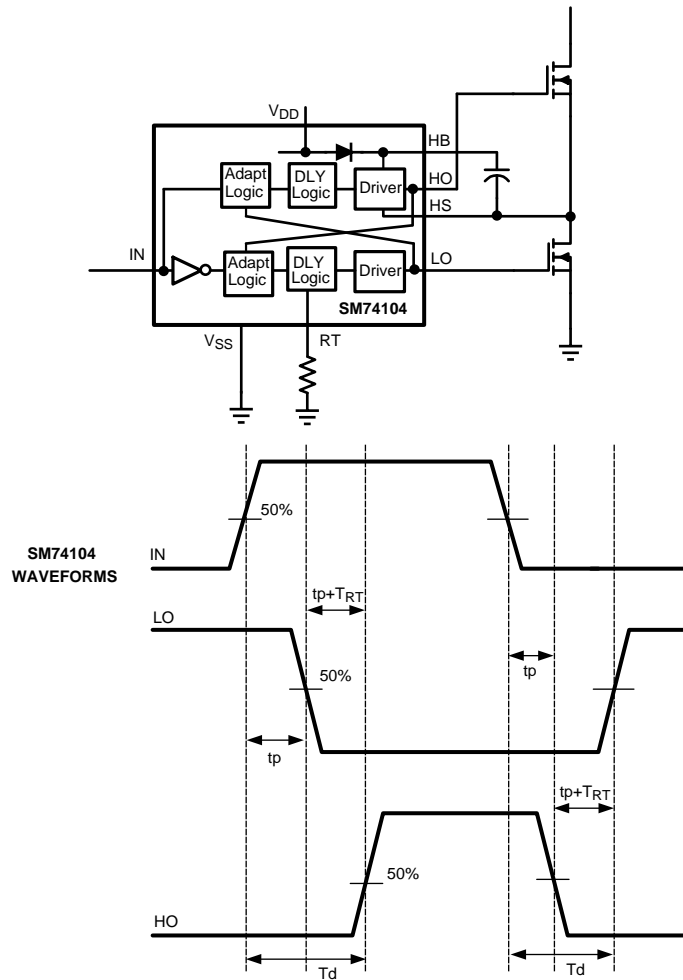

Figure 16. Application Timing Waveforms
Referring to the timing diagram in Figure 16, the rising edge of the PWM input (IN) turns off the bottom MOSFET (LO) after a short propagation delay (t_p). An adaptive circuit in the SM74104 monitors the bottom gate voltage (LO) and triggers a programmable delay generator when the LO pin falls below an internally set threshold ($\approx V_{DD}/2$). The gate drive of the upper MOSFET (HO) is disabled until the deadtime expires. The upper gate is enabled after the TIMER delay ($t_p + T_{RT}$), and the upper MOSFET turns-on. The additional delay of the timer prevents lower and upper MOSFETs from conducting simultaneously, thereby preventing shoot-through.